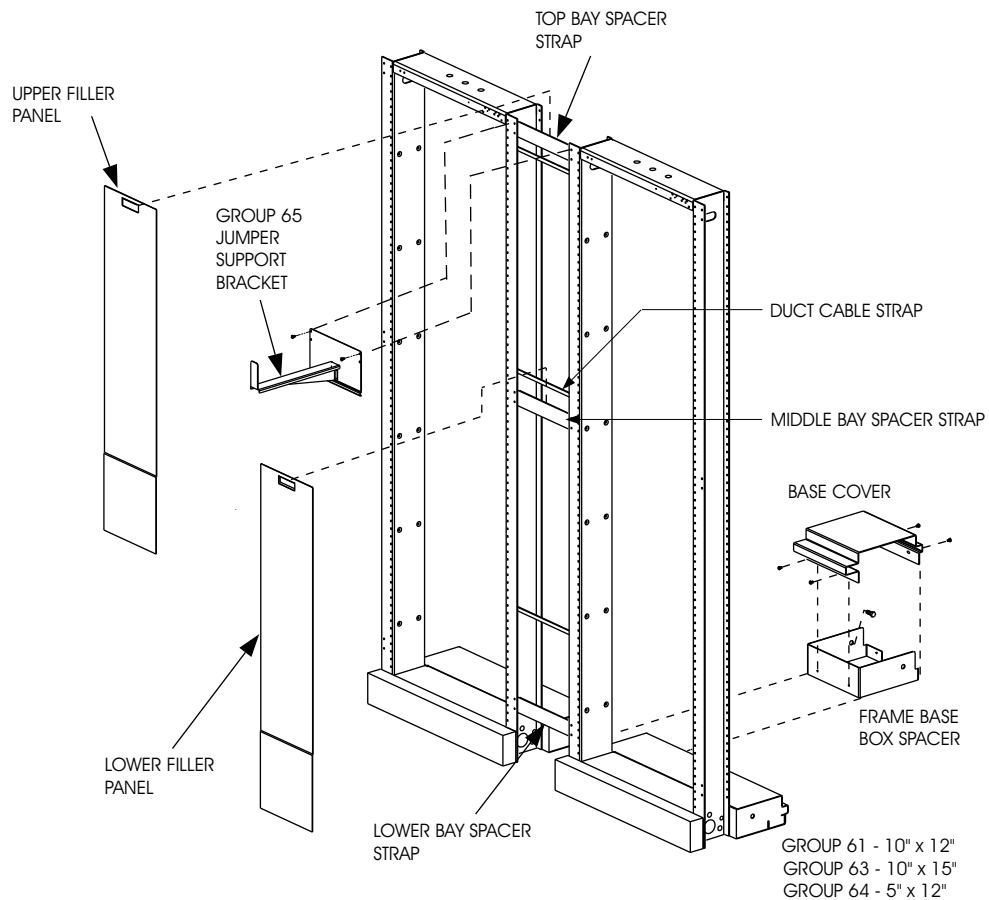

Figure 2. Installing Groups 61, 63, 64, and 65 Framework Hardware
1. Fasten frame base box spacer to adjacent bay frames with two 3/8-inch -16 by 1-inch (9.52 mm by 25 mm) long screws. (See Figure 2.)